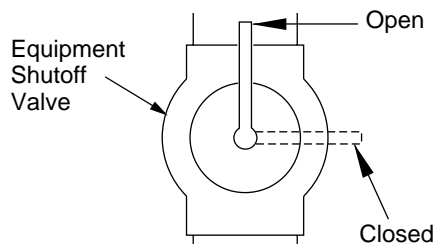

Figure 43 - Equipment Shutoff Valve
1. Close equipment shutoff valve (see Figure 43).
1. Open equipment shutoff valve (see Figure 43, page 21).